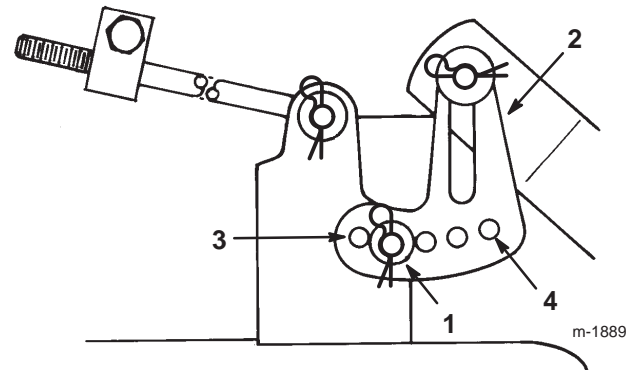

Figure 47
10. Remove the hairpin cotter and washer from the leveling bracket (Fig. 47). To level the blades, reposition the leveling bracket in a different hole and install the
washer and hairpin cotter (Fig. 47). A front hole lowers the blade height and a rear hole raises its height. Repeat this procedure on the opposite side of the mower.